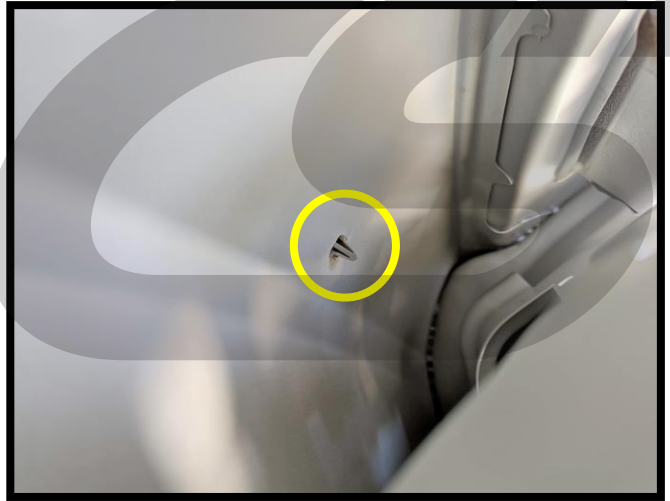

Figure 1c
- e) Release the tabs on the plastic clips circled in **Figure 1c** that are located to the left and right of the previously removed bolts by using needle nose pliers or a small flat blade screw driver. The plastic clips will not be able to be fully removed, only released and pushed out slightly.